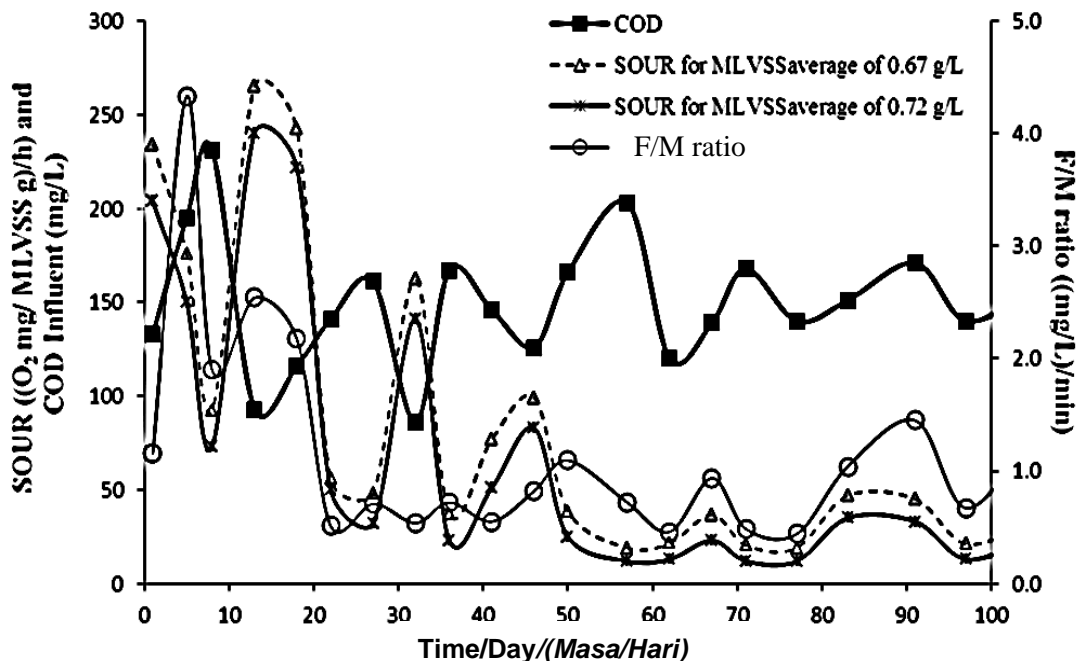

Figure 1: Profile of COD influent, F:M ratio and SOUR at different concentration of MLVSS.
5. (a). Explain the relationship between COD influent, SOUR and F/M ratio profile as shown in **Figure 1**.